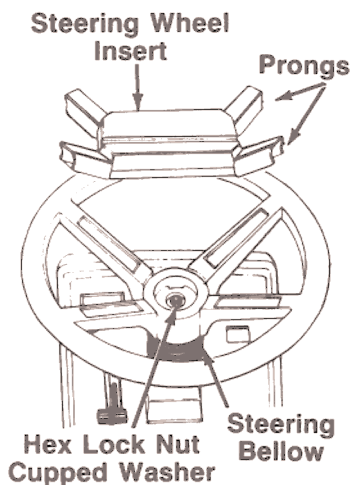

FIGURE 6A.—Model 704F
2. Attach one end of steering bellow to the steering wheel as shown in figure 6A, inset.
5. Place the washer with the cupped side down over the steering shaft. Secure with hex lock nut. See figure 6A.